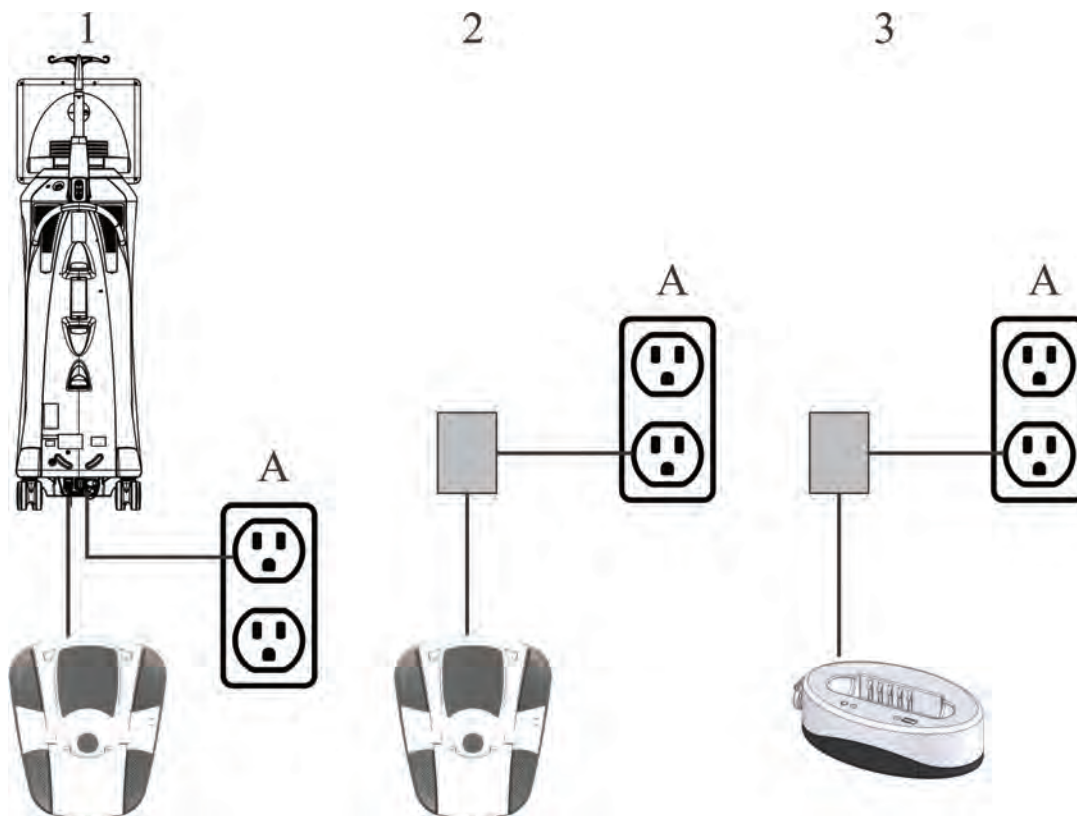

Figure 1.36. Foot Control Battery Charging Options.
- With the system power cord plugged into the electric source and the Primary (Integrated) Foot Control connected to the system, the battery will be charged if the main power switch is turned ON. This charging method applies with or without the Graphical User Interface being turned ON. See Option 1 in Figure 1.36.
- The Primary (Integrated) Foot Control can be directly connected to the wall charger. Connect the wall charger cable into the back of the Primary (Integrated) Foot Control, into the same receptacle used for the backup cable. See Option 2 in Figure 1.36.
- With an extra battery and battery charging cradle, you can connect the wall charger cable to the battery charging cradle. A green light indicates the cradle is on, a second light is yellow when charging is in progress, and green when the battery charging is complete. Once the battery is fully charged, you can take it out of the cradle and replace the battery in the Primary (Integrated) Foot Control. See Option 3 in Figure 1.36.